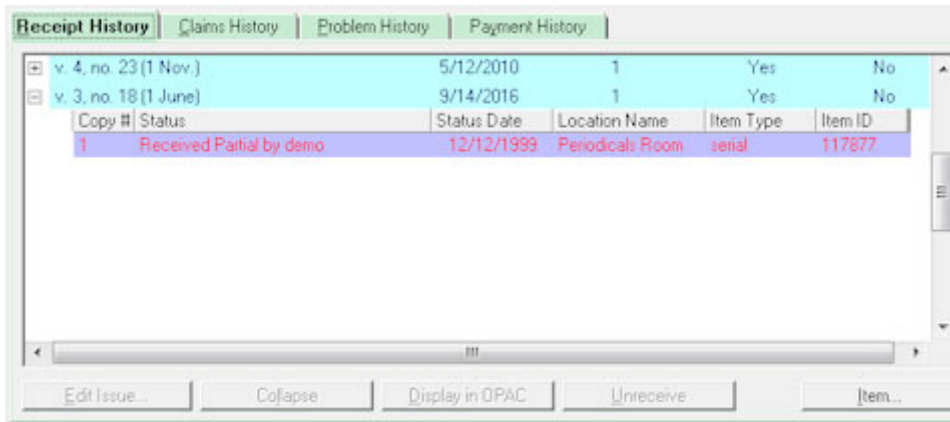

Figure 10-12. Receipt History tab with an issue selected
3. To create an item record for a copy, in the second level of the hierarchy, select the copy of the issue for which you want to create an item record (see Figure 10-12).